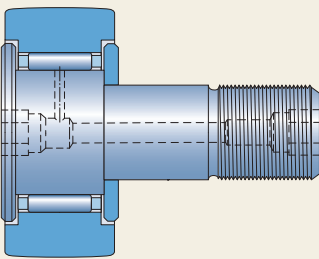

Fig. 5
- a full complement needle roller set (fig. 5, V in the basic designation)